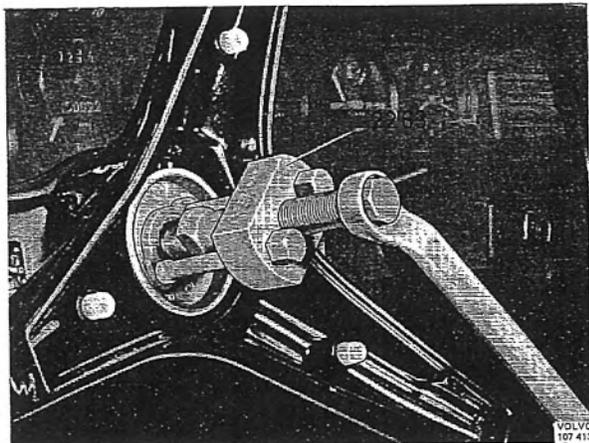

Fig. 6-37. Removing steering wheel
4. Pull the steering wheel off with puller 2263, see Fig. 6-37.